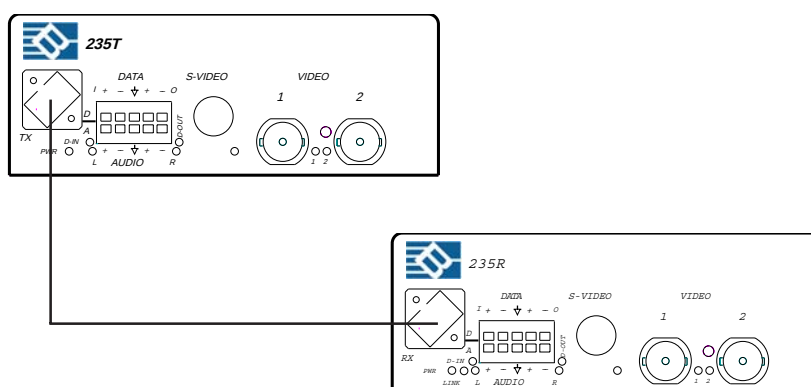

Figure 2-8
3. Cross-connect the fibers from one unit to the other connecting the near end 235 unit's optical TX port to the far end 235 unit's optical RX port as illustrated in Figure 2-8.